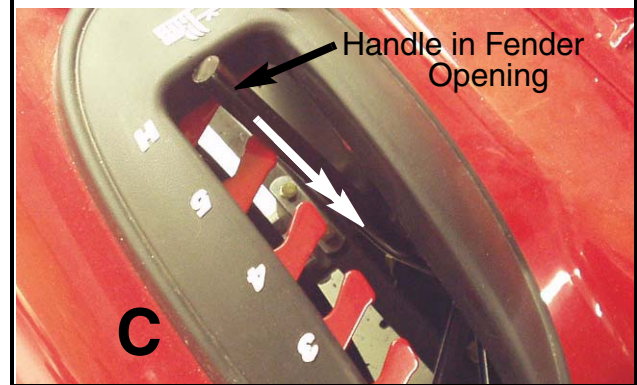

FIGURE 5
19. Carefully work the lift shaft/handle subassembly down and out through opening between frame and fender on the RH side of the frame as shown in Figure 5.